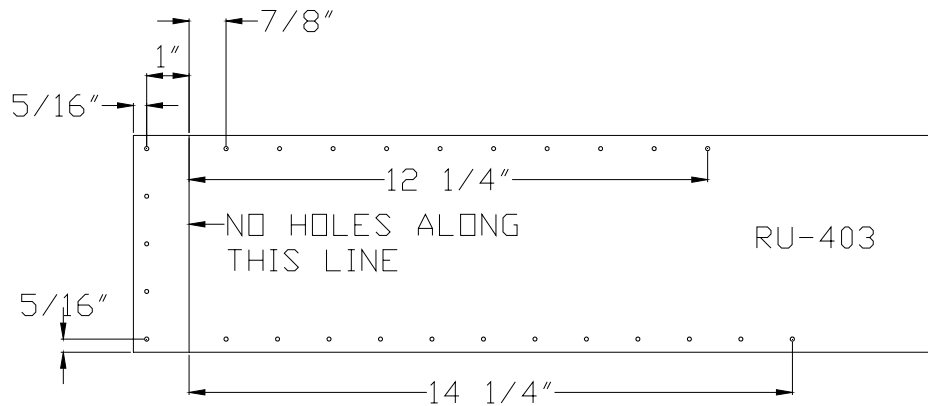

Figure 5.3.3
- 3) Find the two RU-403's and cut them to 5 1/8" x 19". File smooth. Next, layout and drill #40 rivet lines on the two RU-403 Tip Skins. Refer to figure 5.3.3 for dimensions. **NOTE:** You will draw a line across the part 1 5/16" from one end. Do not drill holes on this line. Figure 5.3.3.